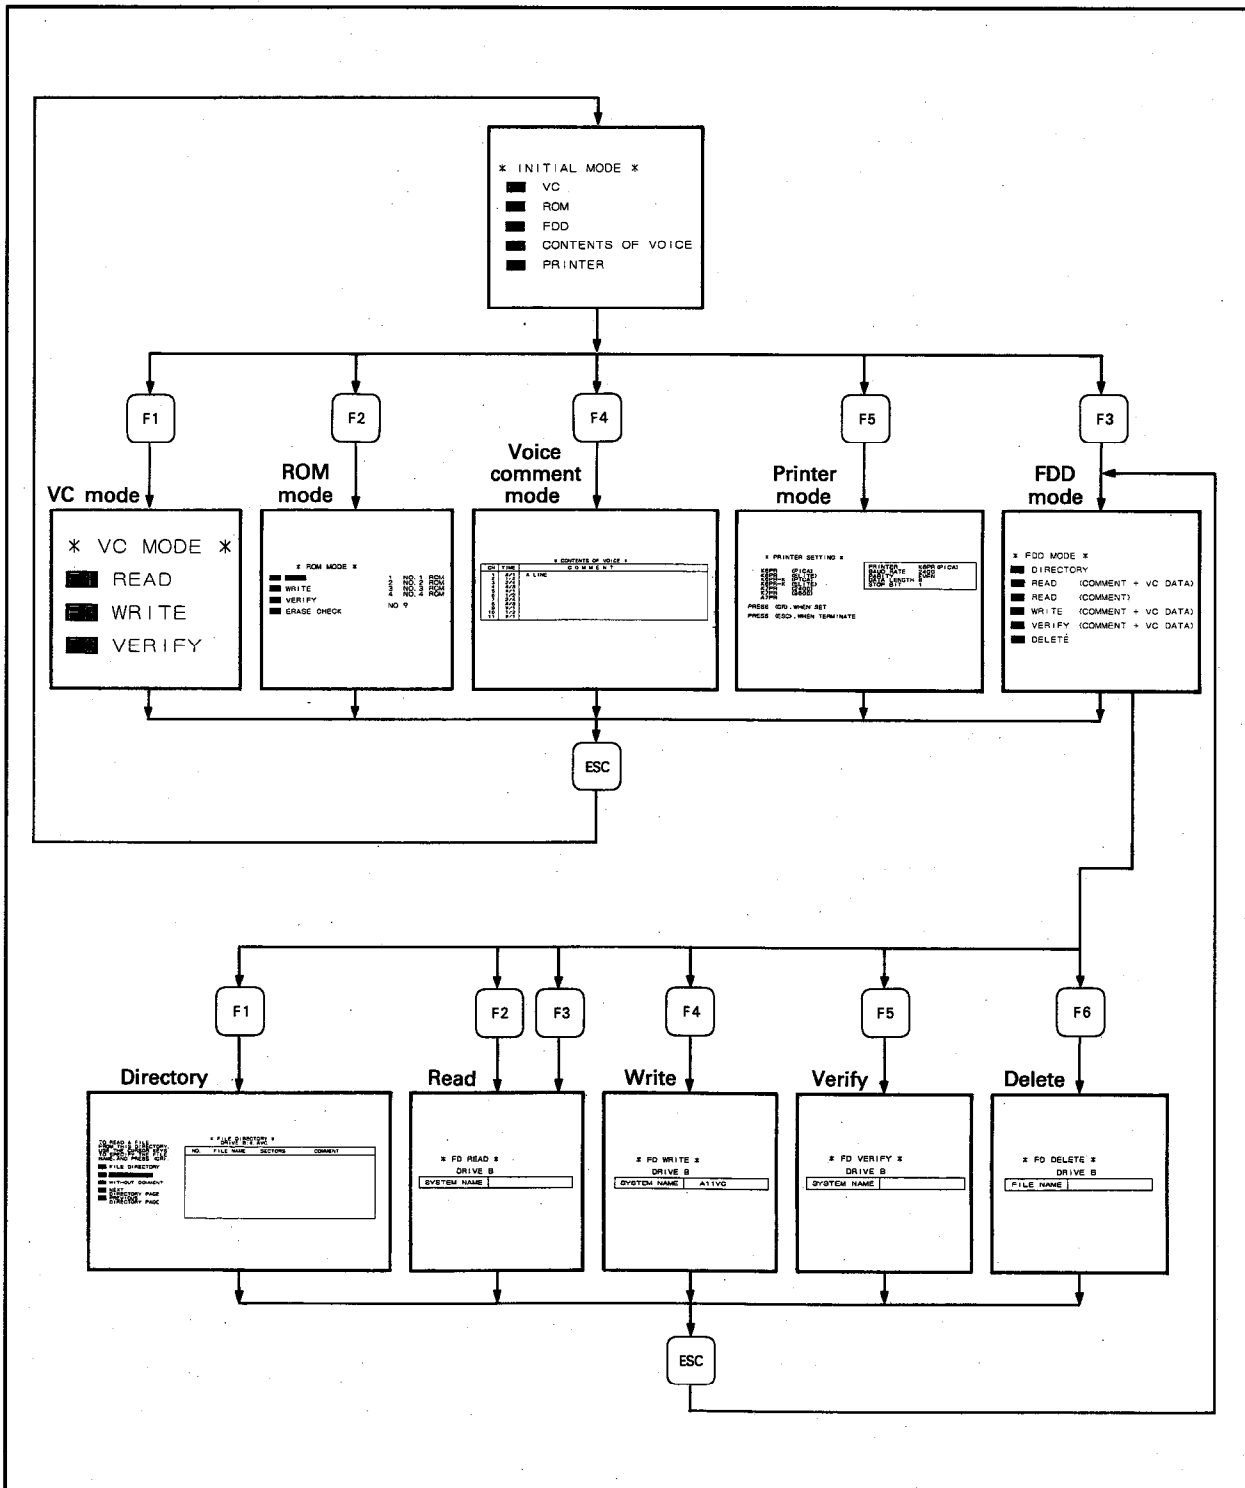

Fig. 3.2 Sequence of Display Screens
- (1) Select each A11VCP mode from the initial menu screen. To change modes during execution, first return to the initial menu screen.
- (2) Press the ESC key to return to the initial menu screen.
- (3) Figure 3.2 shows the sequence of display screens when selecting each mode after starting up the system.